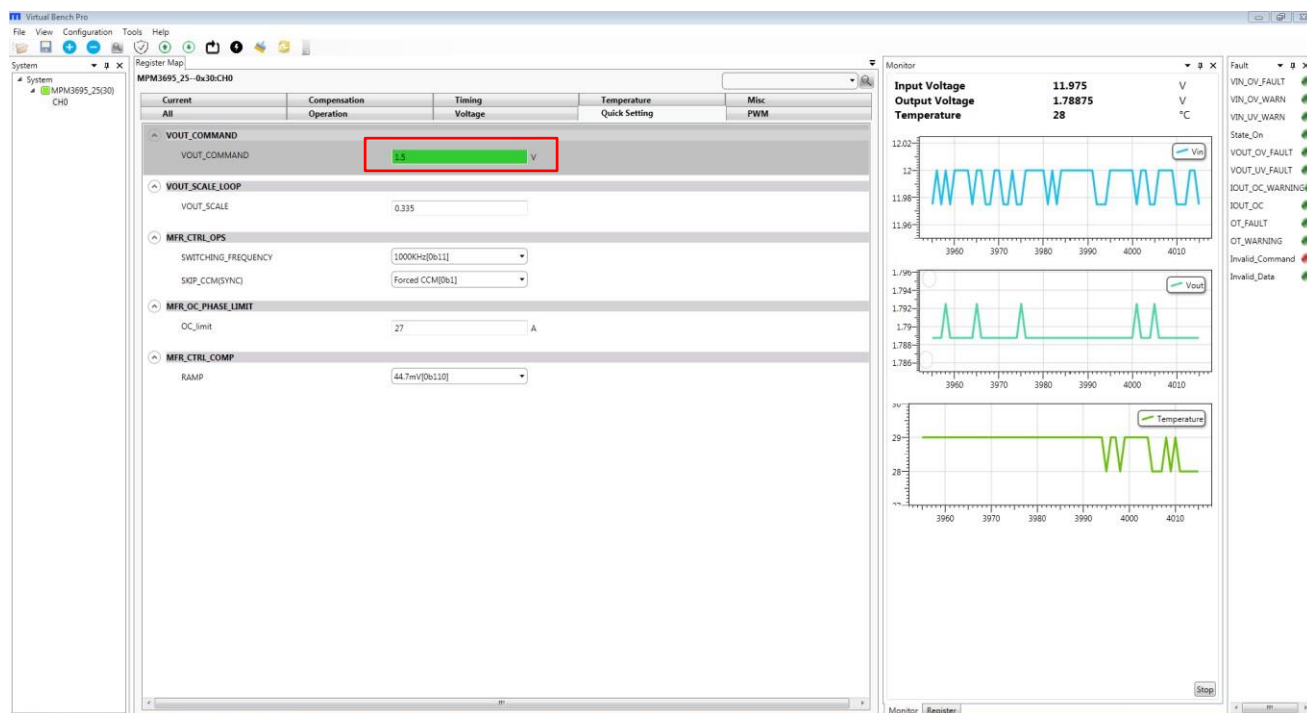

Figure 8: Enter Desired Values in the Register
3. Change the register value as desired. A valid input must be entered. Otherwise, an alert will appear, and the entered value will not be accepted. (see Figure 8).